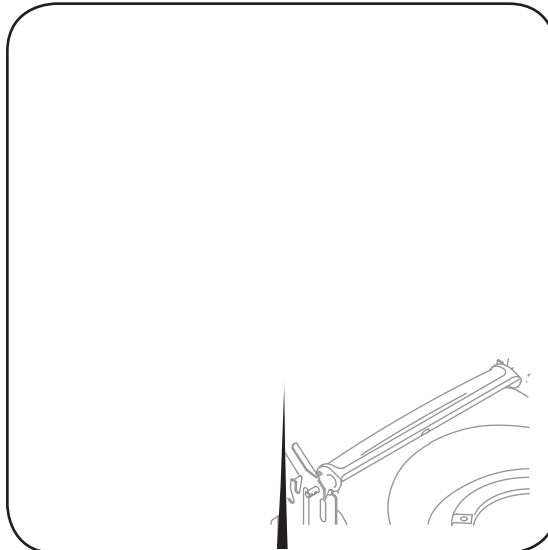

Figure 3-7: Use lever at each wheel to adjust cutting height.
1. Pull the lever out and away from the mower, Figure 3-7.